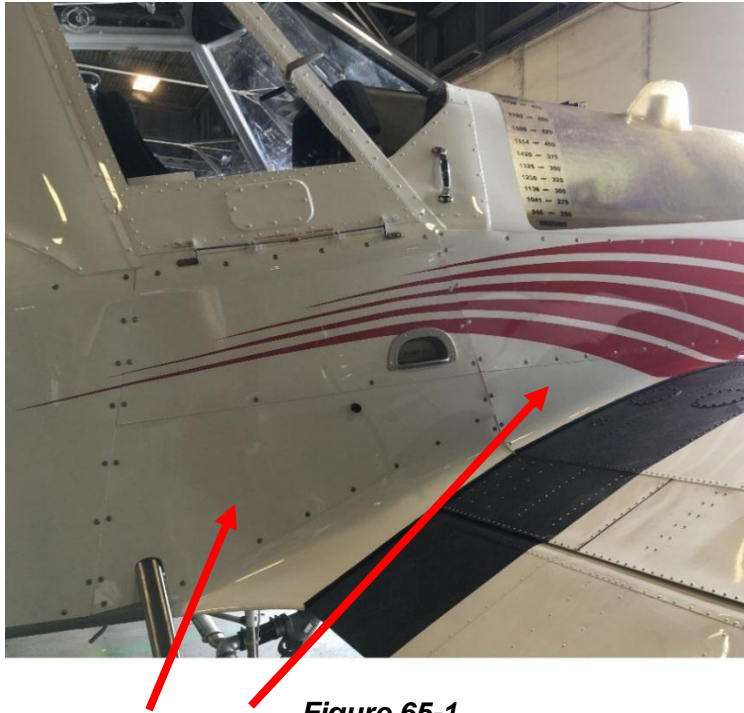

Figure 65-1
- 7.2 Remove those aircraft skins and fairings necessary to gain access to the header tank on the aircraft right-hand side, located under the cockpit. See Figure 65-1.